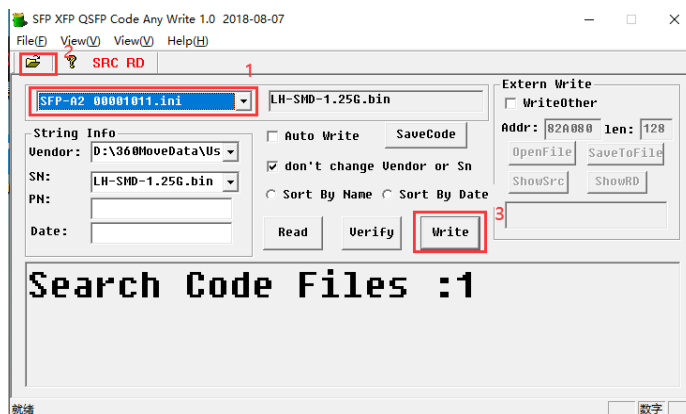

Figure 12
3.5 Select the configuration file "SFP-A2 00001011" corresponding to the 10G LR optical module with the password "00 00 10 11" (as shown in Figure 12)
3.6 Click the  Or select the menu: File->Select Code Source Foler, select See below,choose the folder where you saved the codes, Click OK. (as shown in Figure12)
3.7 Click the "Write", (as shown in Figure 12)